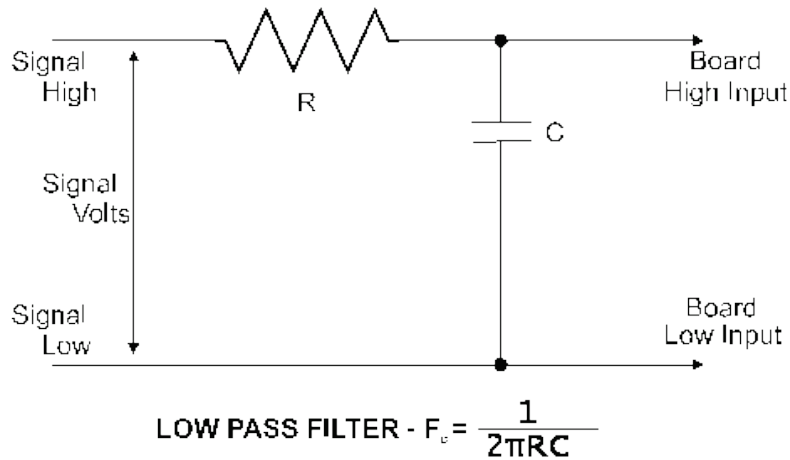

Figure 17. Low-pass filter schematic
In a digital circuit, a low pass filter might be used to "de-bounce" (filter) an input from a switch or external relay. (Unless switch/relay contacts are mercury-wetted, they tend to bounce briefly on closure, generating a pulsating noise signal.) A simple low-pass filter can be constructed from one resistor (R) and one capacitor (C) (refer to Figure 17).